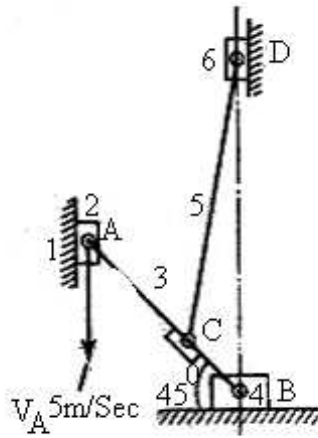

Figure 4:
8. In the mechanism shown in figure 4, the slider moves uniformly vertically downwards at 5m/sec. The various dimensions of the link are AB=15cms, AC=10cms, CD=20cms, Determine,